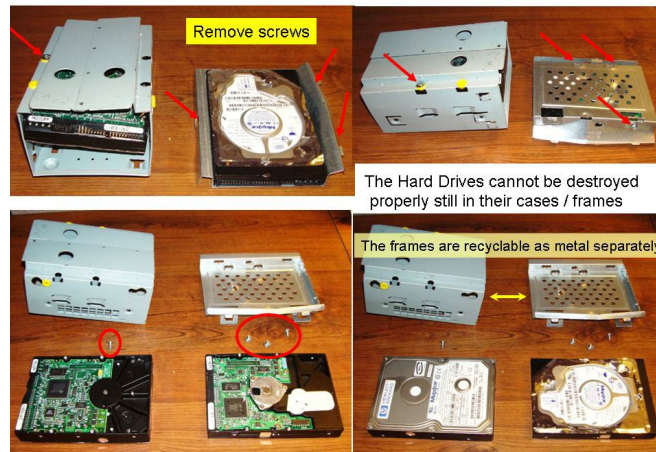

Figure 1
- (1). The IT Manager or Security Manager will complete the HD Turn-in document (Section 4.4.6.7.3.3) and certify that all information is accurate.
- (2). The Activity Environmental Coordinator (AEC) will check all information and certify that all information is accurate.
- (3). The IT Manager, Security Manager, AEC, Unit Environmental Coordinator (UEC), or Hazardous Waste Coordinator (HWC) will schedule a turn-in or degaussing appointment with the SWRC.
- (e). HDs must be deconstructed before turn-in, separating the components as follows (See Figure 1):
- (f). The IT Manager or Security Manager will keep the copy for three (3) years.